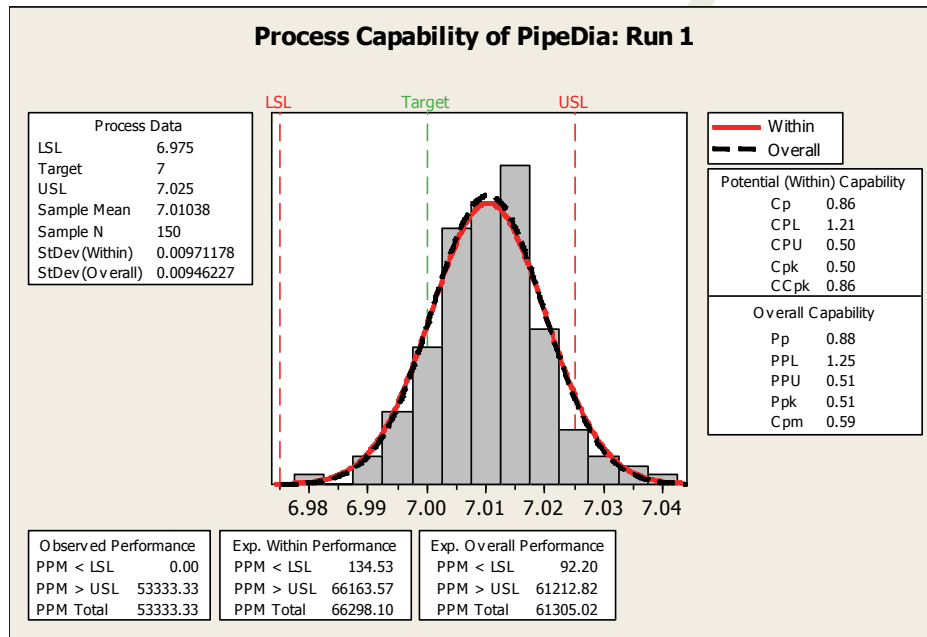

Figure 6.11: Process Capability Report of Pipe Diameter: Run 1
The process capability report as shown in Figure 6.11 will be displayed.
2. The report in Figure 6.11 shows the histogram of the data along with two normal curves overlaid on the histogram. One normal curve (with a solid line)
3. The histogram and the normal curves can be used to check visually if the process data are normally distributed. To interpret the process capability, the normality assumption must hold. In Figure 6.11,
13. The bottom three boxes report observed performance, expected within performance, and expected overall process performance in parts per million (PPM). The **observed performance** box in Figure 6.11 shows the following values: